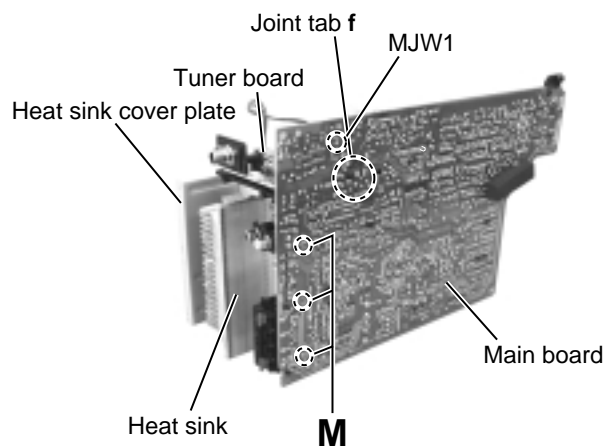

Fig.21
## ■ Removing the tuner Board (See Fig.21 to 23)
1. Release the joint tab **f** of the tuner board holder and the main board, and disconnect connector FW1 connected to the main board. Remove the tuner board assembly (Refer to Fig.21).